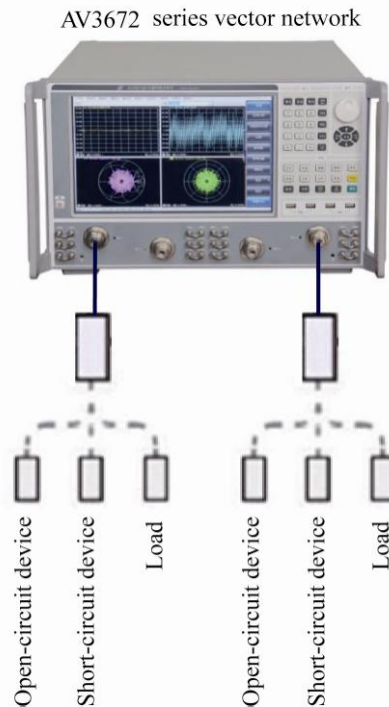

Fig. 11.12 Block Diagram I of Connection of Full Double-port Calibration
- 1) As shown in Fig. 11.12, connect the system and preheat is for 60min at least.